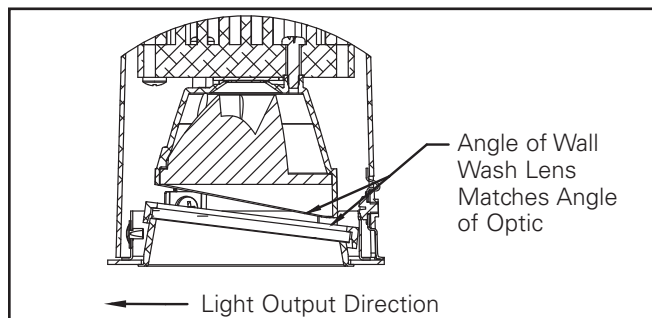

Figure 7
2. For proper wall wash installation (see Figure 7).